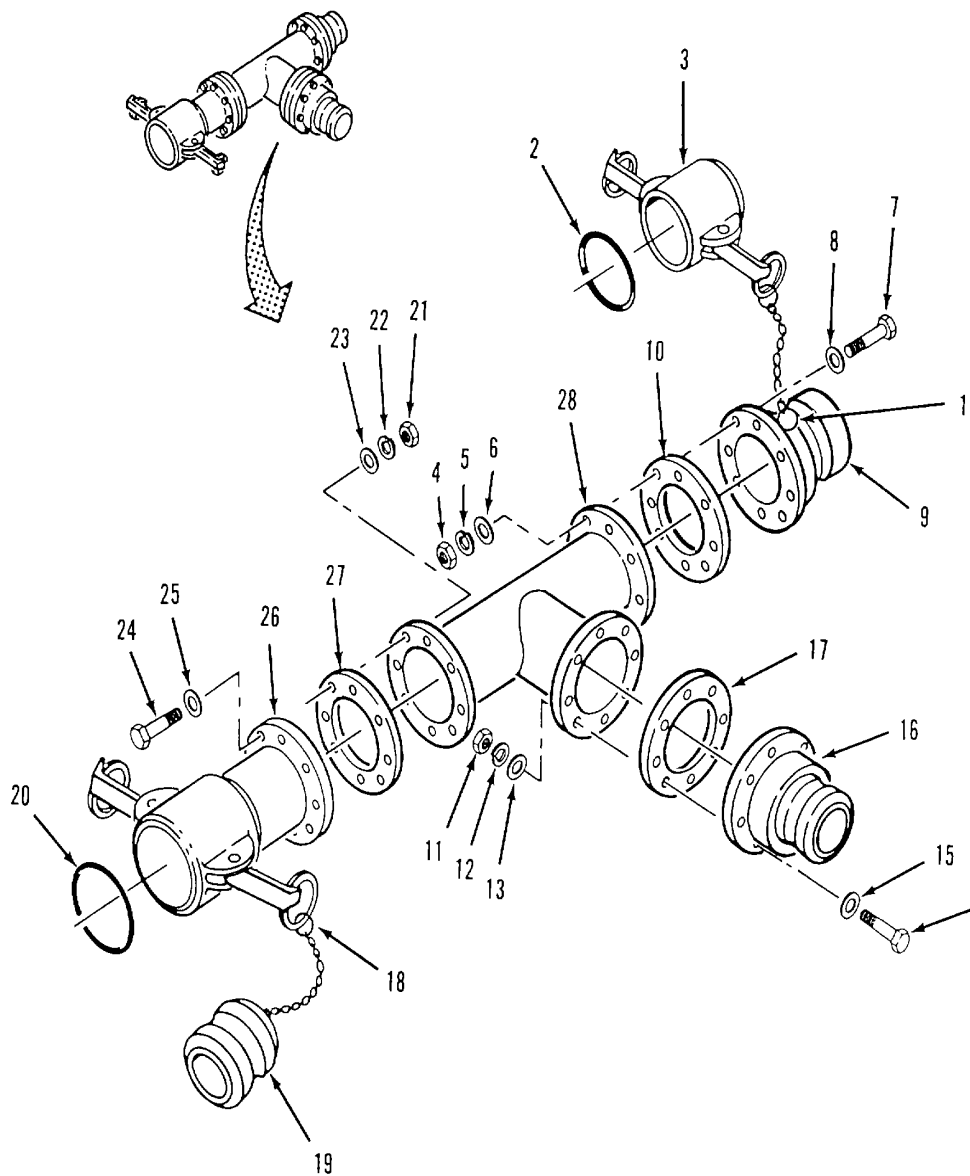

Figure 4-41. Tee Assembly (9115-Y1) Assembly.
- (1) Inspect male couplings (9 and 16) for cracks.
- (2) Inspect female coupling (26) for cracks and damaged lock arms.
- (3) Inspect tee (28) for cracks and corrosion.
d. Repair. Replace defective components. Do not reuse sealing components.e. Assembly. Refer to figure 4-41.
- (1) Position gasket (27) and female coupling (26) on tee (28).
- (2) Install eight flat washers (25), screws (24), flat washers (23), lockwashers (22) and nuts (21).